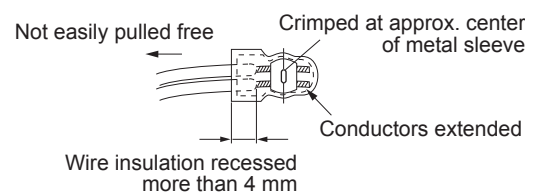

Fig.1-1-7
e) Check the four points noted in Fig.1-1-7.